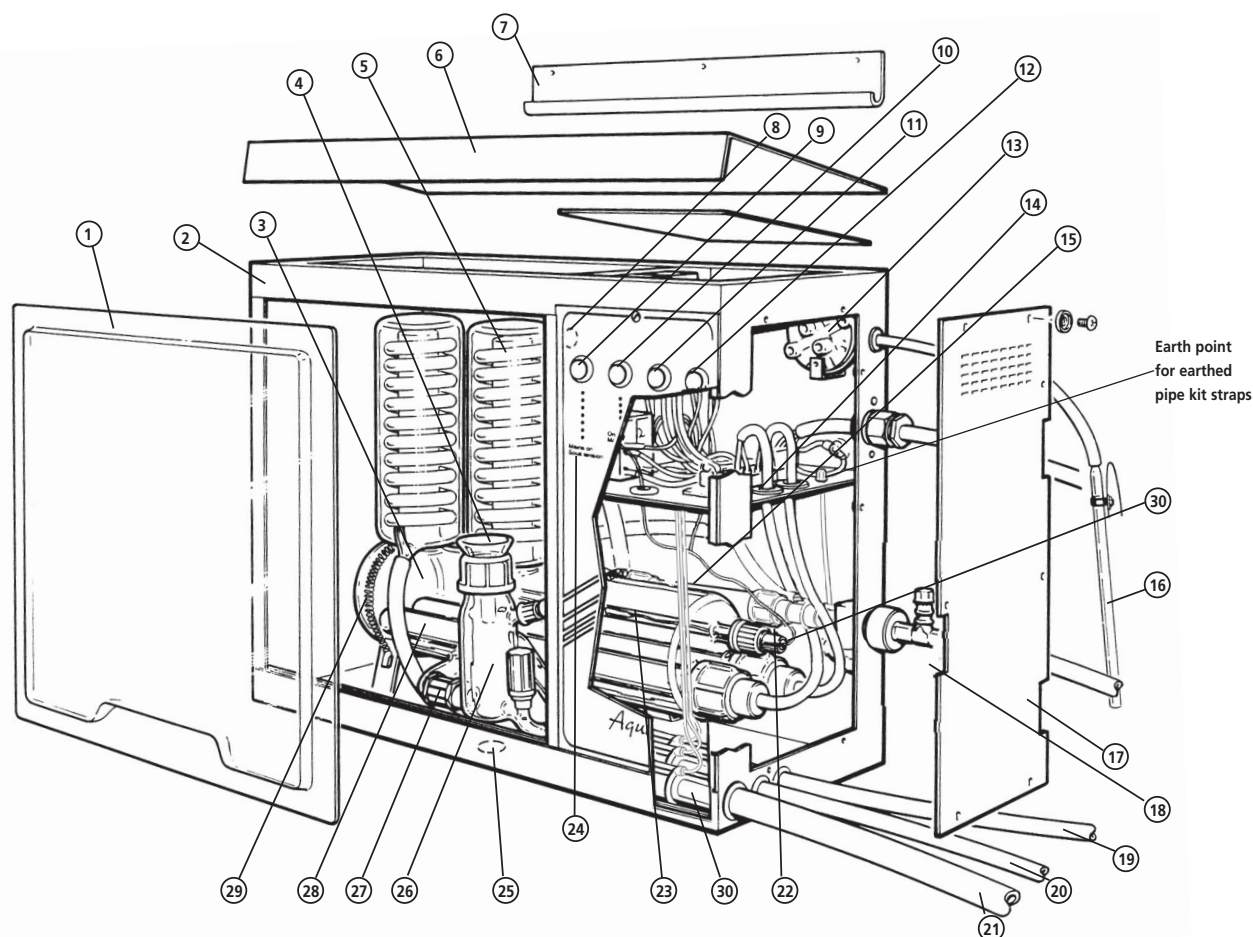
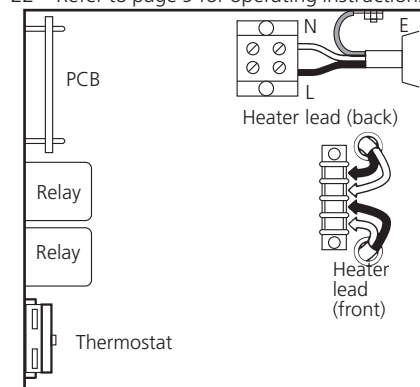

Fig 4: Major component parts A8000
Fig 6 Terminations for A8000
Your Aquatron A8000 has been designed with ease of assembly specifically in mind, but before commencing assembly please study the illustration, fig. 4 on page 6 to familiarise yourself with the general lay-out. During assembly, follow the sequence of instructions and do not connect the mains electricity supply until directed.
- 3 Remove the perspex viewing screen, item 1 fig. 4 by using the finger recess to lift the screen out of the lower cabinet groove, then remove the internal packaging which has protected the glass boiler during transit. Also sever the temporary tie holding the two boiler retaining springs, item 29 in place.
- 4 Remove the cabinet end plate, item 17 by unscrewing the six retaining screws and 'shake proof washers'. Similarly, unscrew the six countersunk screws to remove the cabinet roof (item 6).
- 17 Pass the electric cables of the heaters up into the electrical control compartment via the available orifices (refer to figure 4). Push the spade terminals onto the correct pins of the connecting strip (refer to figure 6).
- You have now assembled your Aquatron Water Still. Move the assembled A8000 to its working location – using the mounting bracket, item 7 if the unit is to be wall mounted. Ensure there is a space of at least 500mm to the right of the unit to allow access to the heating elements.
- 19 Connect the cold water supply to connection 18 fig. 4. Note the tubing selected should have a safe working pressure of at least equal to the pressure of the water supply and should be adequately secured by hose clips.
2. Ensure that the earth wire is connected correctly to the earth post - see figs 4 and 10a.
4. Ensure that the earth wire is connected to the earth post - see figs. 4 and 10a.
5. Refer to fig. 5 and 10c. For hose assembly 4 connect the shorter 8mm vinyl tube to the junction where hose's 4 and 5 meet. Feed the free end of the 8mm tube through exit labelled 20, Fig. 4.
6. Ensure that the earth wire is connected to the earth post - see figs. 4 and 10a.